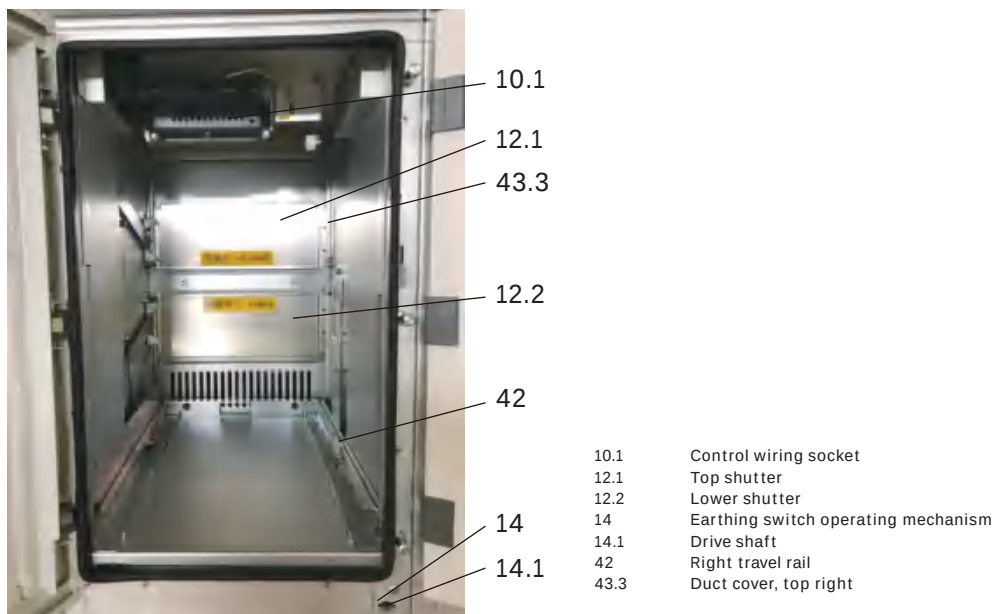

Figure 71 View into the circuit-breaker compartment
- An additional control mechanism fitted in the door of the circuit-breaker compartment enables mechanical operation of the circuit-breaker with the door closed and with the withdrawable part in either position (Fig. 71)